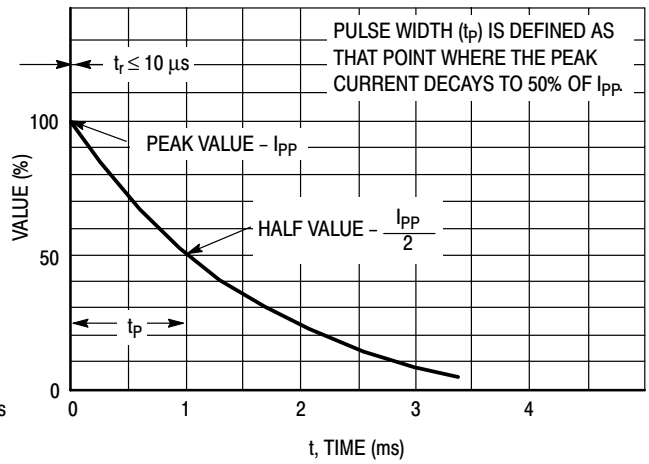
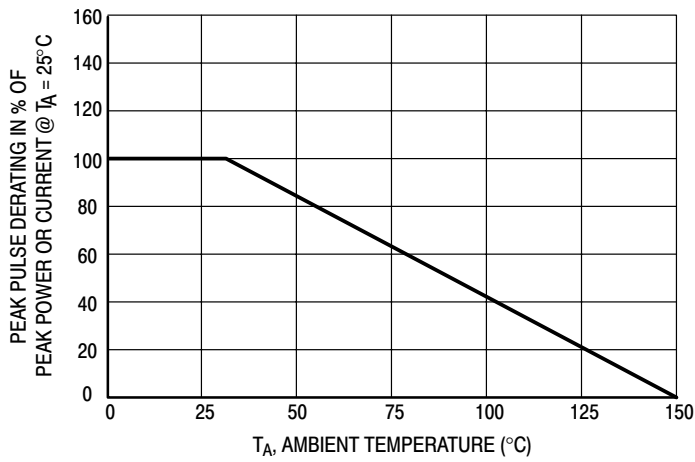

Figure 2. Pulse Waveform
Figure 3. Pulse Derating Curve
6. Surge current waveform per Figure 2 and derate per Figure 3.